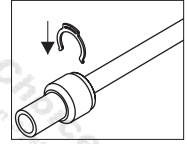

Fig. 5
- 2) Insert safety clip (if applicable) (Fig. 5).